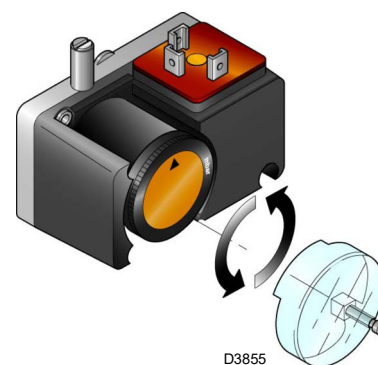

Fig. 30
- Adjust the pressure switch for the valve leak detection control device (PVP Kit) (Fig. 30 at page 31), if present, according to the instructions supplied with the Kit itself.
Adjust the pressure switch for the valve leak detection control device (PVP Kit)(Fig. 30), if present, according to the instructions supplied with the Kit itself.